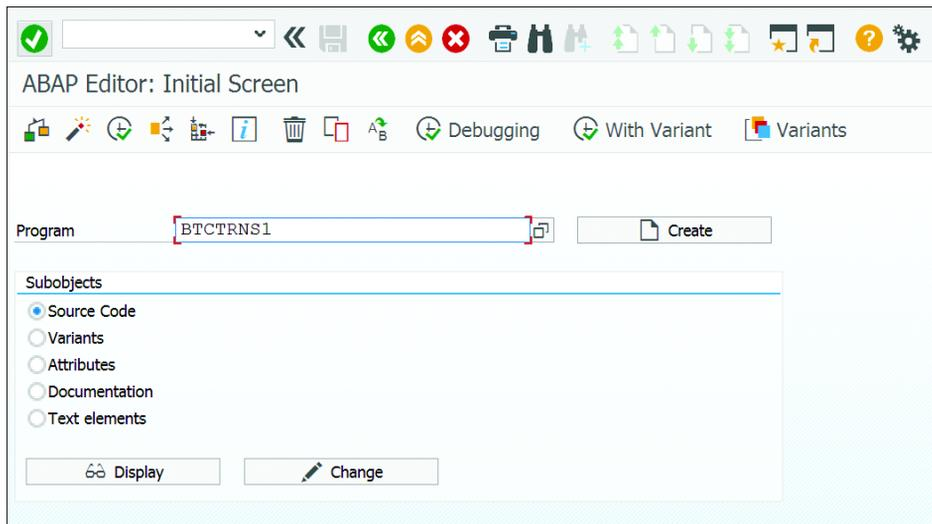

Figure 64 Execute Program BTCTRNS1 in Transaction SE38
- Reschedule all jobs to status RESCHEDULED DUE TO UPGRADE. Execute program BTCTRNS1 in Transaction SE38 (see Figure 64).